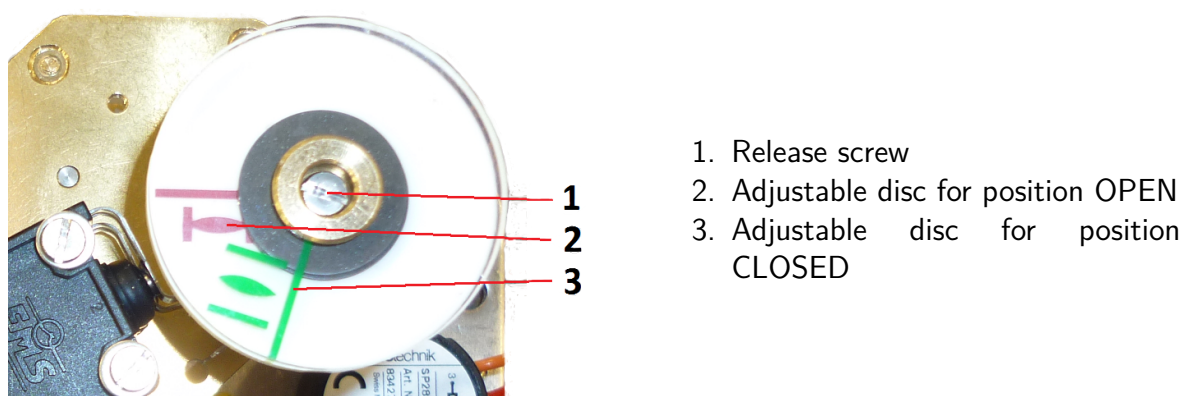

Figure 7.6: Mechanical position indicator
If optional switches are fitted for intermediate position signalling, they are operated by means of the shaft cams of the mechanical position indicator. Operate to the respective intermediate position for the setting procedure. Then turn the handwheel by approx. 30° into the opposite direction. For setting the respective cam on the shaft of the mechanical position indicator, slightly unfasten the release screw (figure 7.6, item 1). After cam setting, fasten the screw (Not too tight! Do not exceed 0.5–0.7 Nm). Check the set tripping points by operating over full travel.
Figure 7.6 shows the components of the mechanical position indicator.